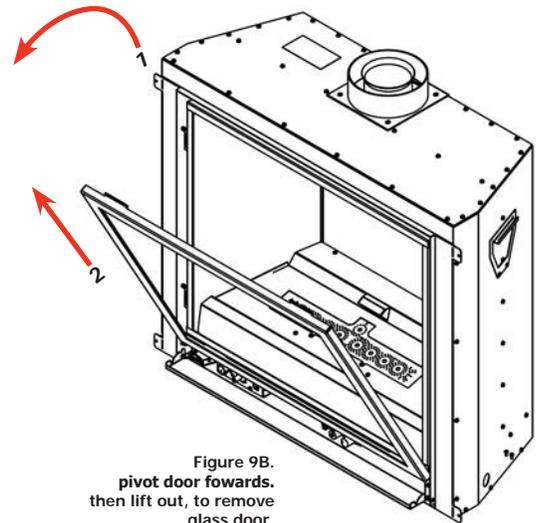

Figure 9B.
**Step 3.** Once released, pivot the door forward and pull it out of the bottom door retainers. The door must be angled in order for it to pull out. Fig.9B